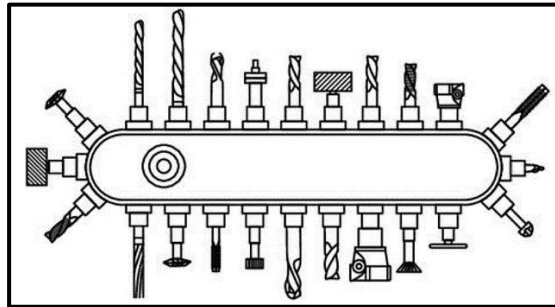

FIGURE 4.4
4.4 Identify the part of a CNC milling machine in FIGURE 4.4 below.